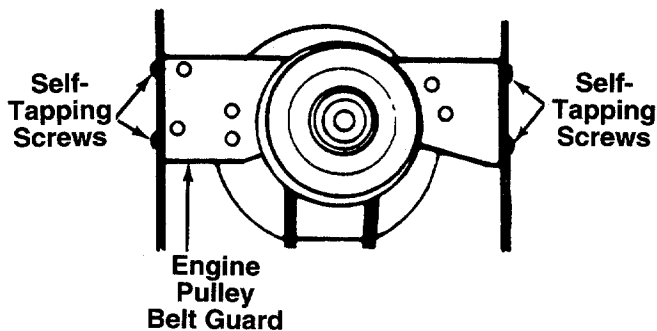

FIGURE 25.
- Remove the two self-tapping screws on each side of the frame which hold the engine pulley belt guard to the frame. See figure 25. Remove the engine pulley belt guard by slipping it forward and down.